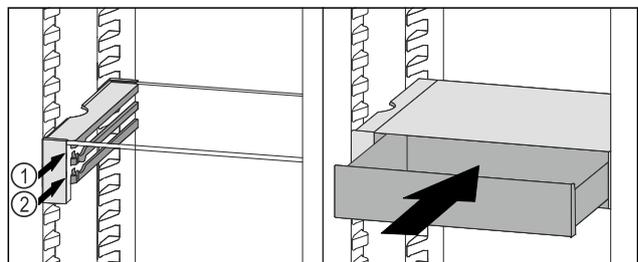

Fig. 97
- ▶ Place the VarioSafe drawer behind the stoppers on desired rib Fig. 97 (1) or Fig. 97 (2).